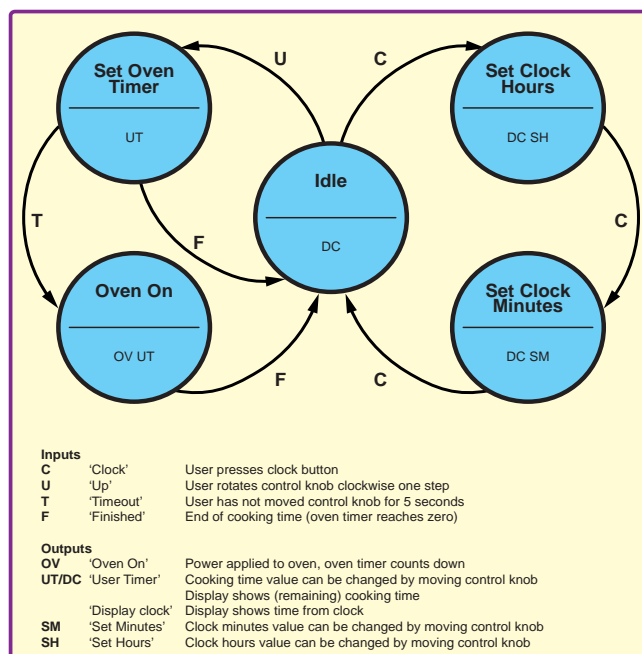

Fig.3. State machine from Fig.2 with simplified outputs. Further refinements next month
At this point we have created our state machine and we may like to check if it can be simplified, or any ambiguities removed. Readers might have notices that the DT and ST outputs are always active at the same time. We could reduce them to a single signal, say ‘Use Timer’ (UT). This is shown in Fig.3. Referring back to our discussion on DC and DT we note that UT and DC are also mutually exclusive and have modified the output definition to reflect this.
This illustrates the fact that we may go through several versions of a state machine as we develop our thinking. Furthermore, the machine shown in Fig.3 is not the only possibility given the general scenario discussed. For example, we have described the timer module controlling the five second timeout function, but this functionality could be controlled by the main state machine instead (we might add an additional state to reset an independent five-second timer when U or D where are active).